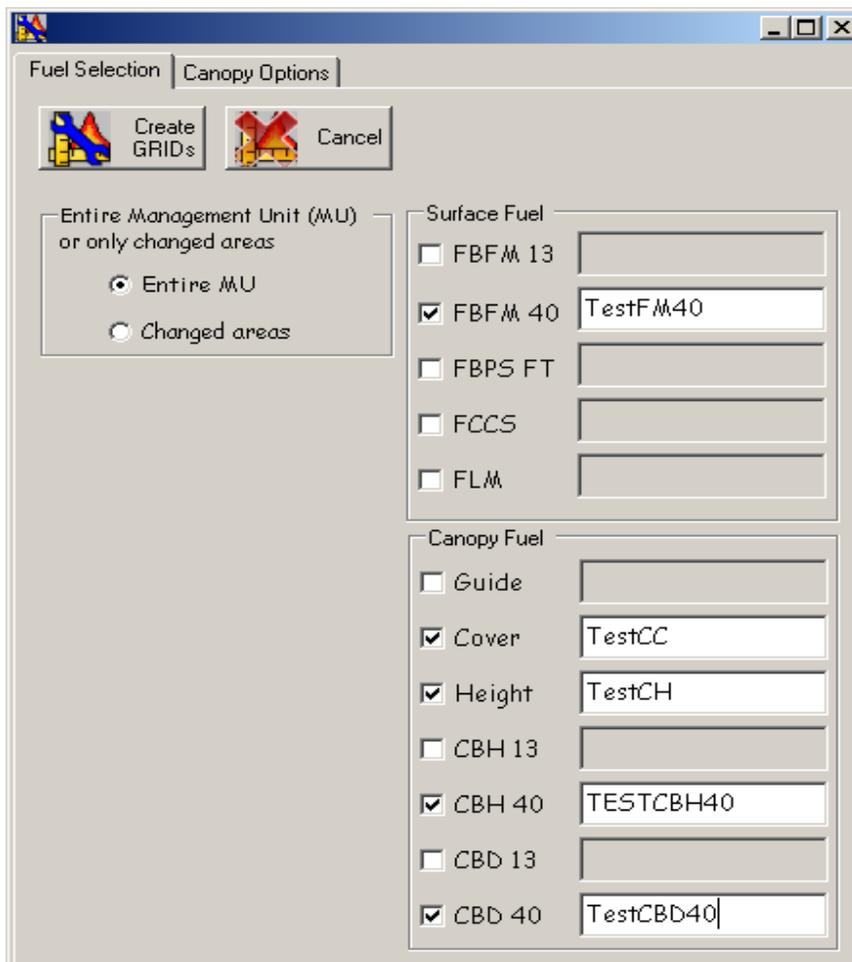

Figure 6-19. Complete the **Fuel Selection** tab and click **Create GRIDS** when done.
The following dialog box will open with the **Fuel Section** tab visible as shown (fig. 6-19).
**Note:** After the boxes are selected with a check mark, the associated box for naming the layer is enabled (fig. 6-19).
- After you have completed the **Canopy Options** tab, return to the **Fuel Selection** tab (fig. 6-19).
- In the top left portion of the **Fuel Selection** page labeled “**Entire Management Unit (MU) or only changed areas**,” use the radio buttons to select either “**Entire MU**” or “**Changed areas**” to specify